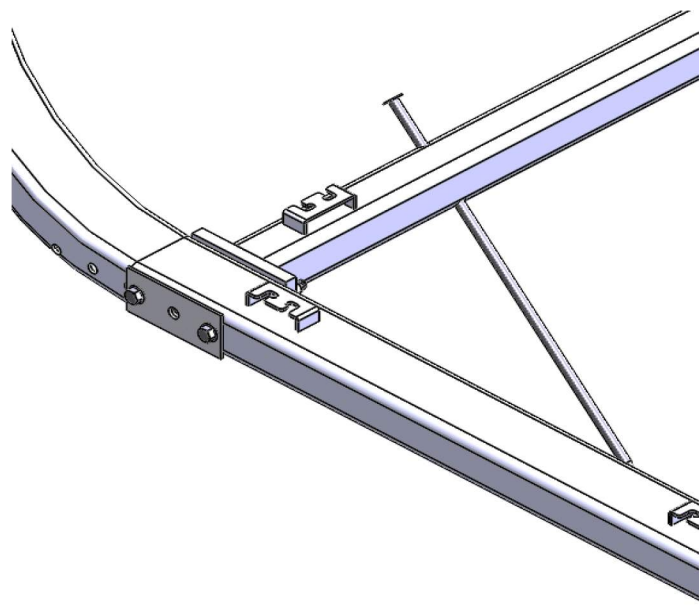

Figure 8
8. **THIS STEP IS FOR NATURAL GRASS SYSTEMS ONLY.** The final step is to anchor the goal to the ground preventing it from moving and/or tipping over. Put the goal into position and install the natural grass anchor system consisting of two (2) anchor pins. Drive the anchor pins through holes in the back bar and into the ground (Fig. 8).